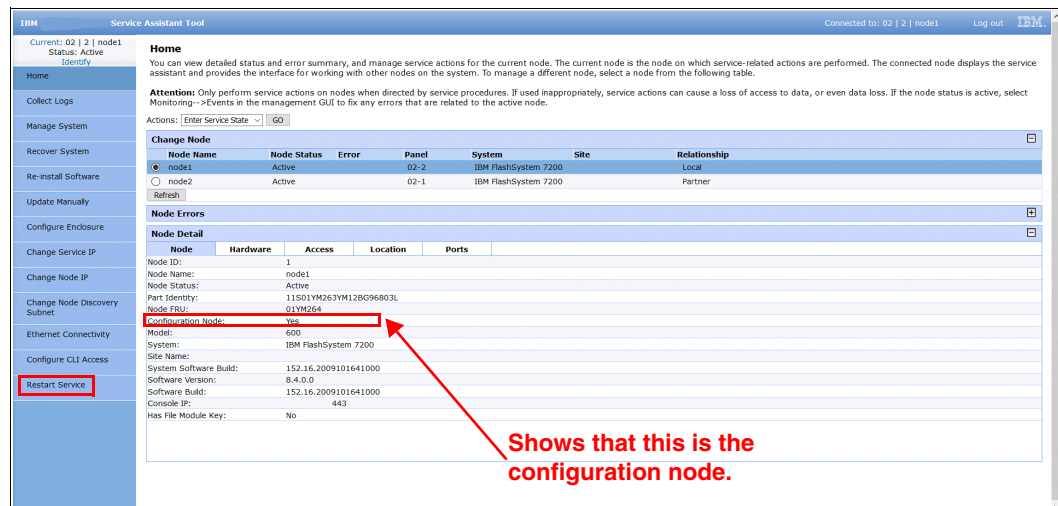

Figure 4-120 Identifying the configuration node on the Service Assistant
1. Log in to the Service Assistant and identify the configuration node, as shown in Figure 4-120.